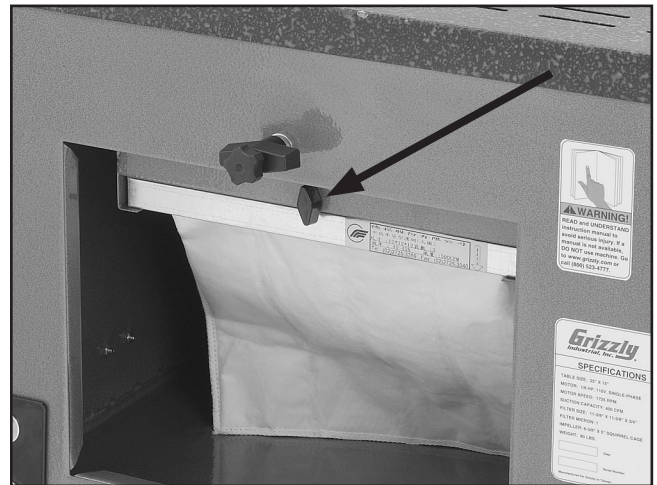

Figure 9. Filter bag knob.
- Hand tighten the filter bag knob (see **Figure 9**).